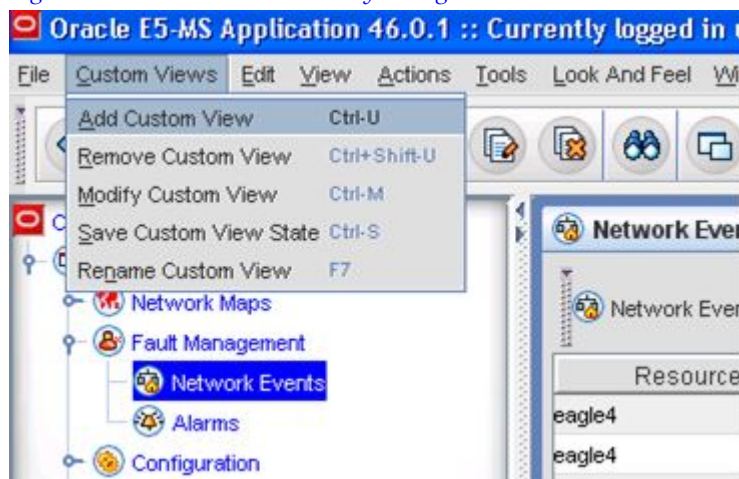

Figure 102: Add Custom View By Using Menu Bar
- From the **Custom Views** menu in the top menu bar, choose **Add Custom View** as shown in Figure 102: Add Custom View By Using Menu Bar.